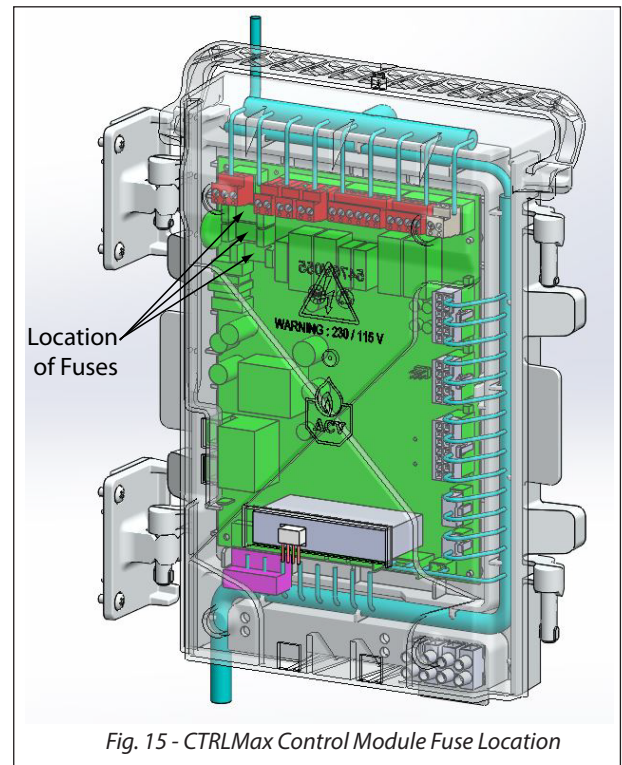

Fig. 15 - CTRLMax Control Module Fuse Location
- The CTRLMax control module contains 3 internal replaceable 5A fuses as shown in *Fig. 15 below*.